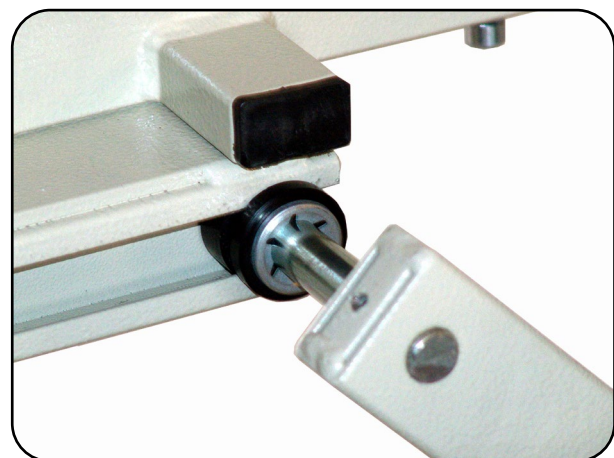

Fig. 6.1.06 – Castor in the C-rail
10. Slide the foot support onto the extension tubes and as you slide it on, thread the castors into the C-rail (Fig. 6.1.06).